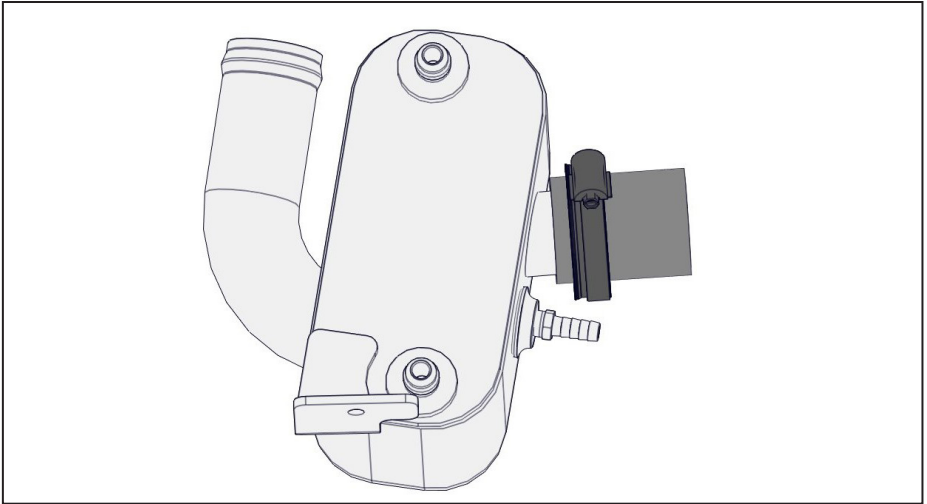

Figure 28 — Install modified hose
- ☐ Install the supplied 4.5 in hose onto the short oil cooler spigot using one of the supplied hose camps. Leave the hose clamp loose to allow adjustment (Figure 28).